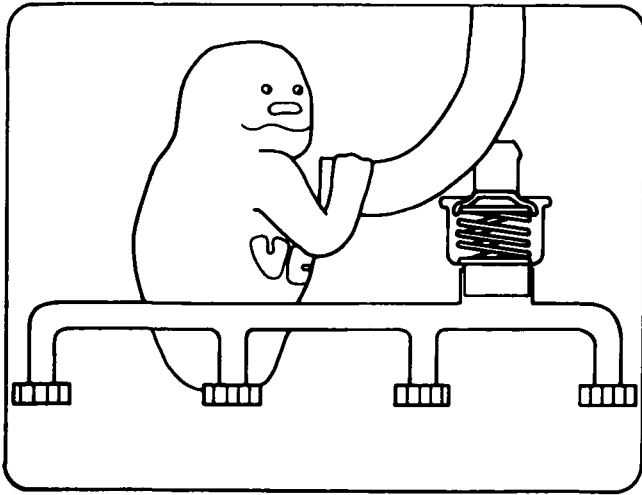

Figure 6-13
4. Figure 6-13 shows an air pump flow test being performed. List the basic steps necessary to perform this test.